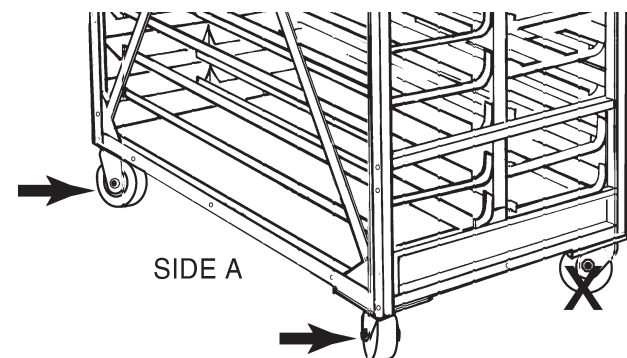

Figure 24: Tightening one Side Frame to its Casters
Step 20: On one side only, tighten down the bolts that attach that particular side frame to its casters as in Figure 24.